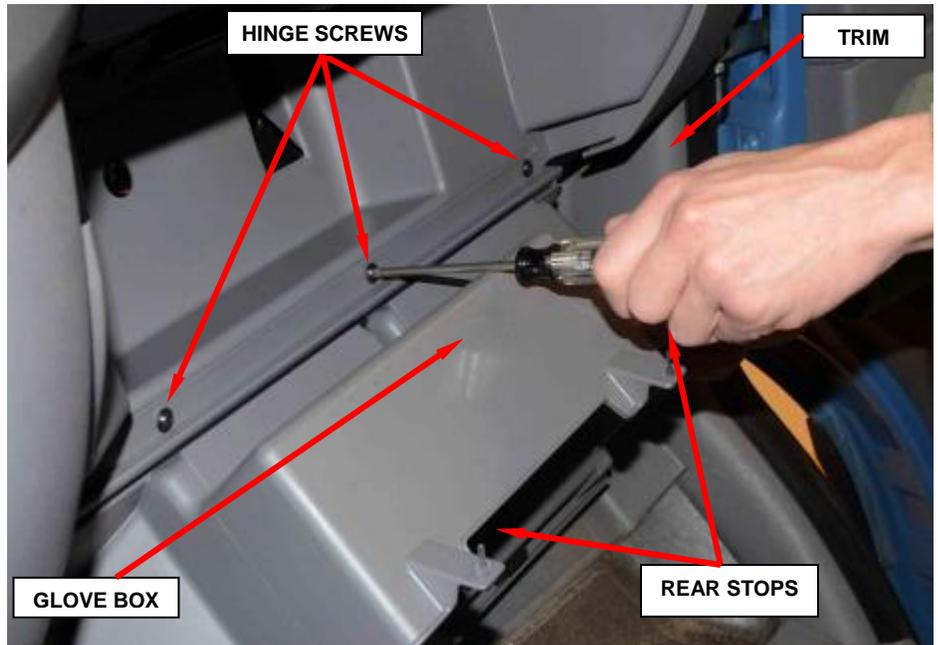

Figure 3 – Glove Box Hinge Screws
2. Open the glove box, push up on the two rear stops and fold the box down completely (Figure 3).
3. Remove and save the hinge screws and remove the glove box (Figure 3).
4. Remove and save the screw securing the trim below the right outboard air outlet bezel and remove the trim (Figure 3).
35. Install the glove box and install the three hinge screws then tighten securely (Figure 3).
36. Position the glove box up into the instrument panel and engage the rear retaining stop tabs (Figure 3).